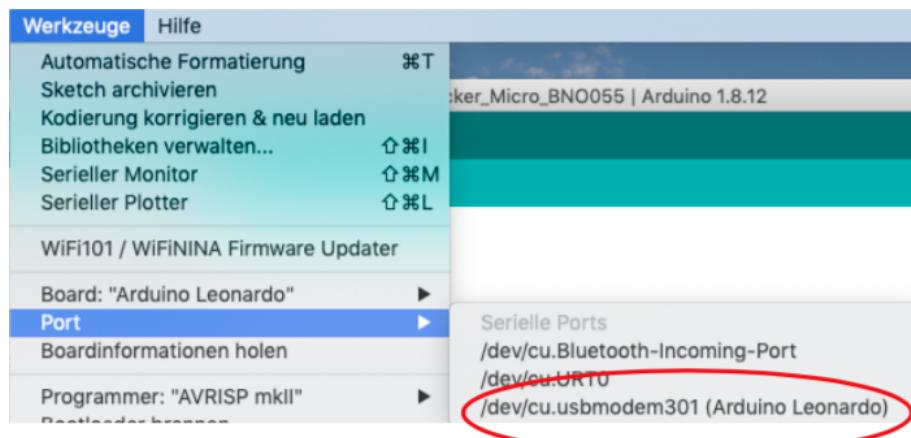

Figure 19: Port “(Arduino Leonardo)”
Step 7.4: Choose the belonging Port “(Arduino Leonardo)” (Figure 19) in the tools section.